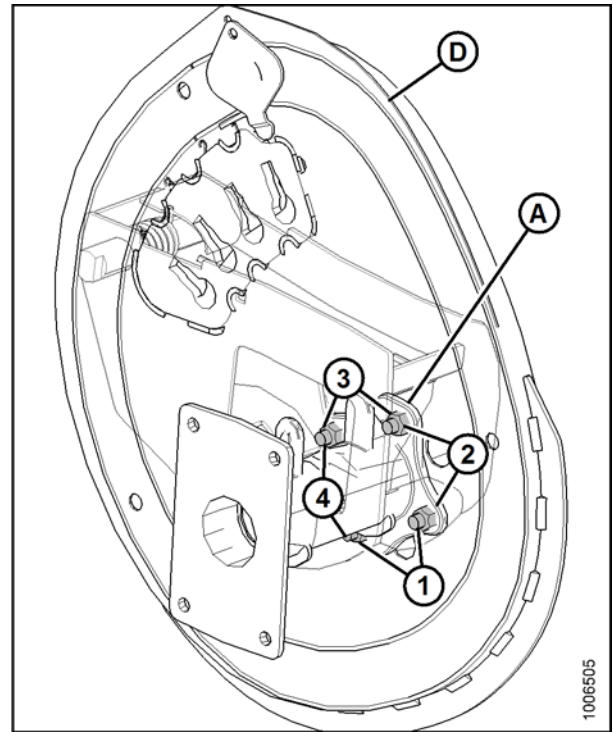

Figure 3: Shim Location
- Loosen the four nuts that secure the cam track plate (D) to the reel drive hub (A). (Figure 3)